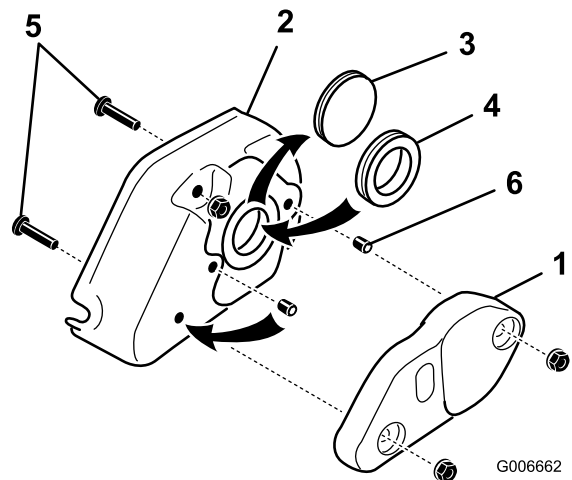

Figure 28
31. Remove the (2) 5/16 inch flange nuts securing the groomer weight to the groomer cover and remove the weight (Figure 28).
6. Set screw (2)
32. Remove the solid grommet from the cover and replace it with the rubber grommet ring (Figure 28).
33. Remove the (2) 5/16 x 1-1/4 screws threaded into the cover (Figure 28).
34. Remove the set screw from the center hole in the groomer cover (Figure 28). Install this set screw and the set screw, included with the kit, into the holes previously used for the cover mounting screws. Apply Loctite to the setscrews prior to installation. Make sure the set screws are flush with the cover.